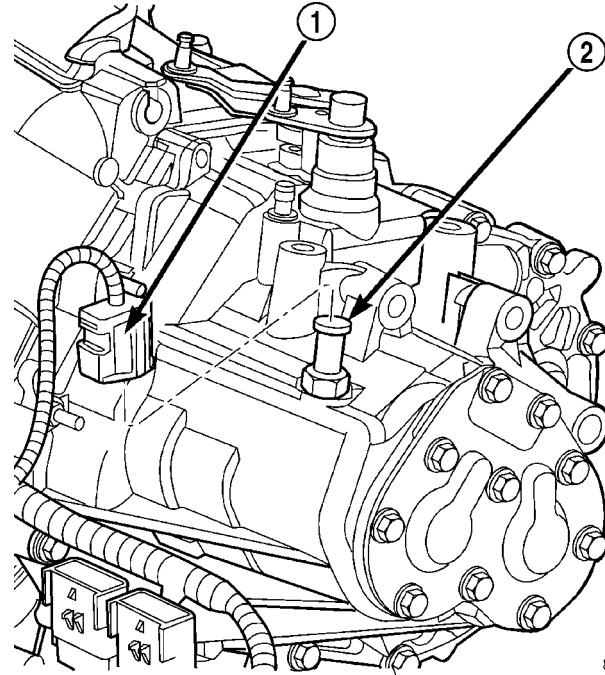

Fig. 68 BACK-UP LAMP SWITCH
- (1) Lift vehicle on hoist.
- (2) From bottom side of vehicle, disconnect back-up lamp switch connector (Fig. 68).
- (2) Connect back-up lamp switch connector (Fig. 68).
- (3) Lower vehicle.
- (4) Verify back-up lamp operation.